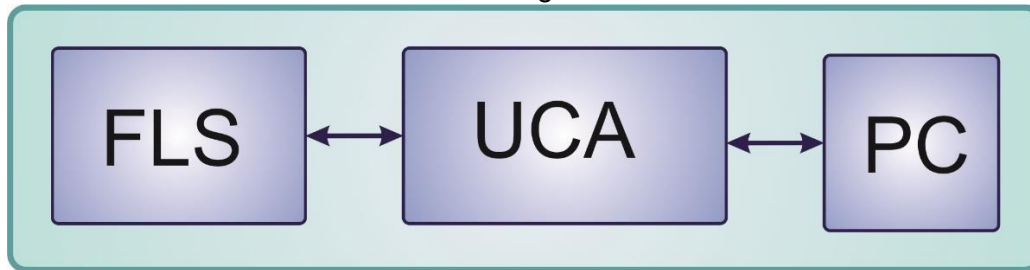

Figure 19 - Connection ETS.RS to PC
2. Connect the sensor to the PC as shown in Fig. 19.